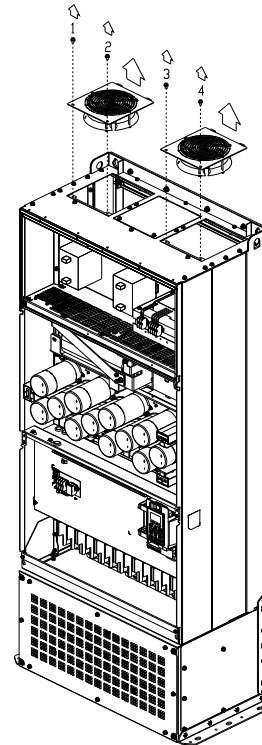

Figure 4
4. Loosen screws 1–4 (as shown below) and remove the fan. Make sure the fan is disconnected when removing. Screw torque: 24–26 kg-cm / [20.8–22.6 lb-in.] / [2.4–2.5 Nm] (figure 4)